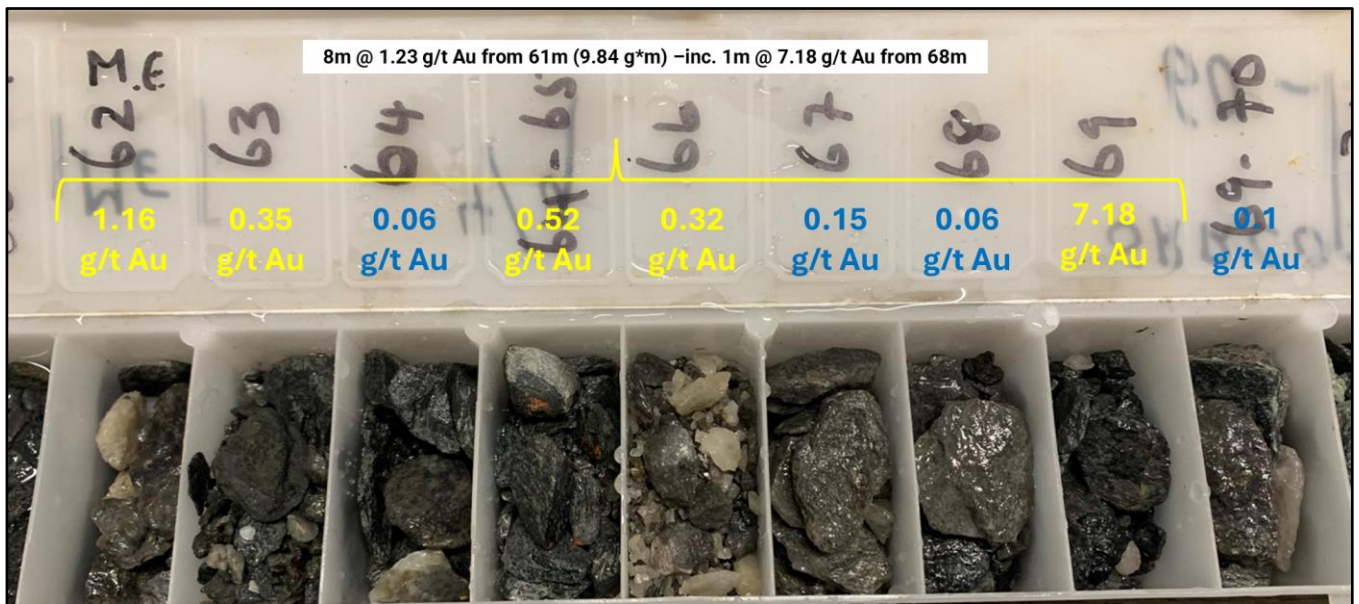

Figure 2: SRRC026 - Mineralised interval from 61m to 69m.
- SRRC026: 8 metres @ 1.23 g/t Au from 61m (9.84 g*m), including 1m @ 7.18 g/t Au from 68m (See Figure 2)**